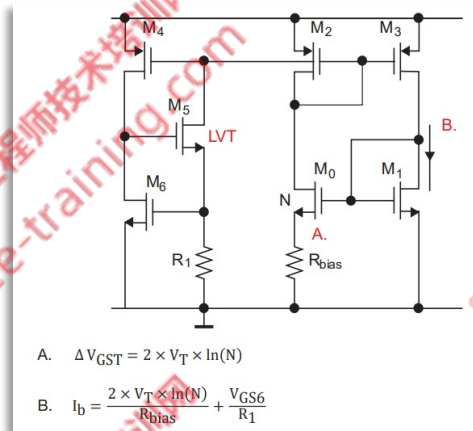

Figure 15. Circuit diagram of low-area 1-nA current reference.
- Figure 15 shows a clever implementation of an almost zero-temperature coefficient bias current, creating positive and negative coefficient temperature bias currents with a small voltage bias across resistors R1 and Rbias.